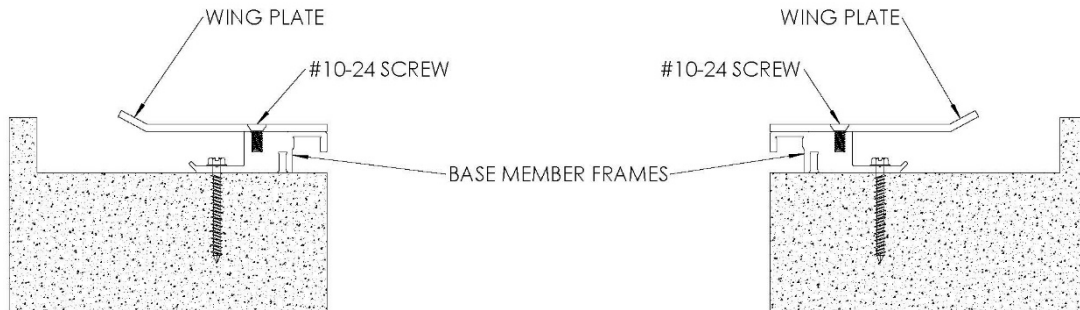

FIGURE 3
3. Reinstall the wing plate to the base member frame with the #10-24 screw. **See Figure 3**
- Place wall bracket against the wall with the top of the bracket level with the location marked on the wall, in step 1. Drill  $\text{Ø}5/32$ " into the substrate per the shop drawings and attach the wall bracket to the substrate with the supplied  $\text{Ø}3/16$ " Tapcon anchors. Reinsert base frame (only) into blockout and properly locate. Using the frame as a template, mark, and drill  $\text{Ø}5/32$ " holes for Tapcon fasteners. Align frame edge with joint face. Install base member frame to blockout opening with fasteners, making sure not to over tighten. **See Figure 3.**